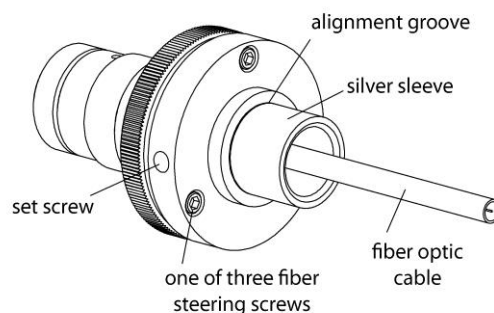

Figure 3 - Components of a lens assembly
1. Use the 5/64-inch hex screwdriver from the **qpod 2e** accessory kit to loosen the set screw (**Figure 3**).
5. Use the 5/64-inch hex driver from the accessory kit to maximize the signal by adjustments of the three fiber steering screws (**Figure 3**). This adjustment will make small movements of the position of the fiber end relative to the lens. Also, loosen the set screw to insert the silver sleeve deeper into the lens assembly. Inserting the silver sleeve further into lens assembly moves the end of the fiber closer to the lens, altering the focus of the light. This adjustment is most important at UV wavelengths. (Measurements can be made